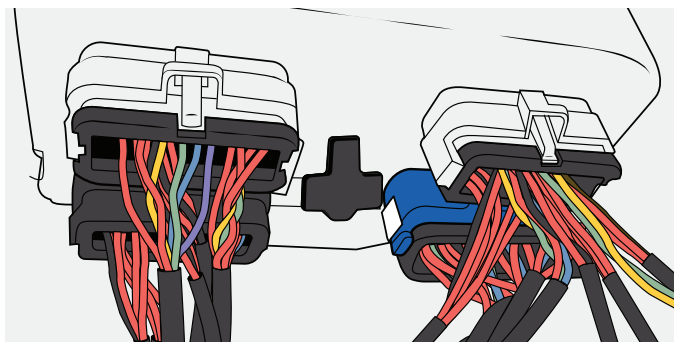

Figure 95
35. Connect all the connectors to the Main box panel. See Figure 95.